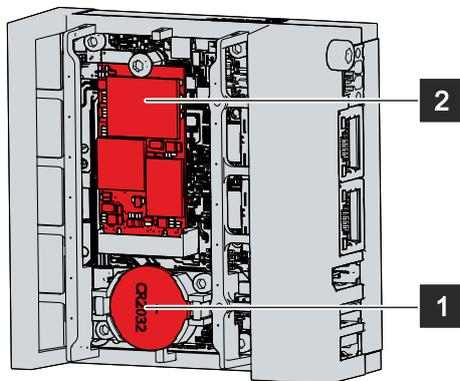

Fig. 24: C6015 _Battery and storage media
You now have access to the battery (1) and storage medium (2) (see Fig. 24).